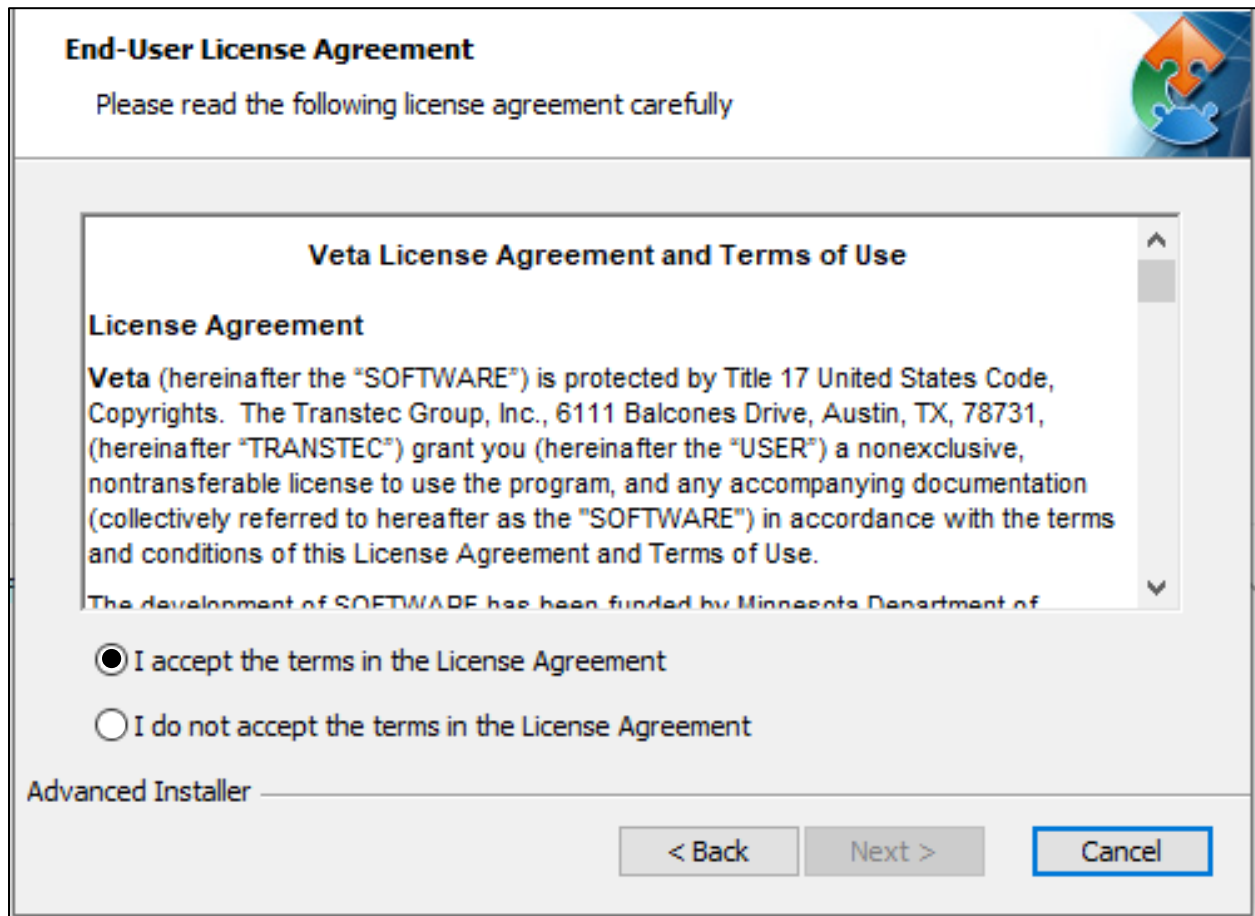

Figure 2. User's agreement window.
Step 2. The Veta End-User License Agreement screen will automatically display (reference Figure 2). Read the Agreement and select “I accept the terms in the License Agreement.” Click the Next button to continue the process.